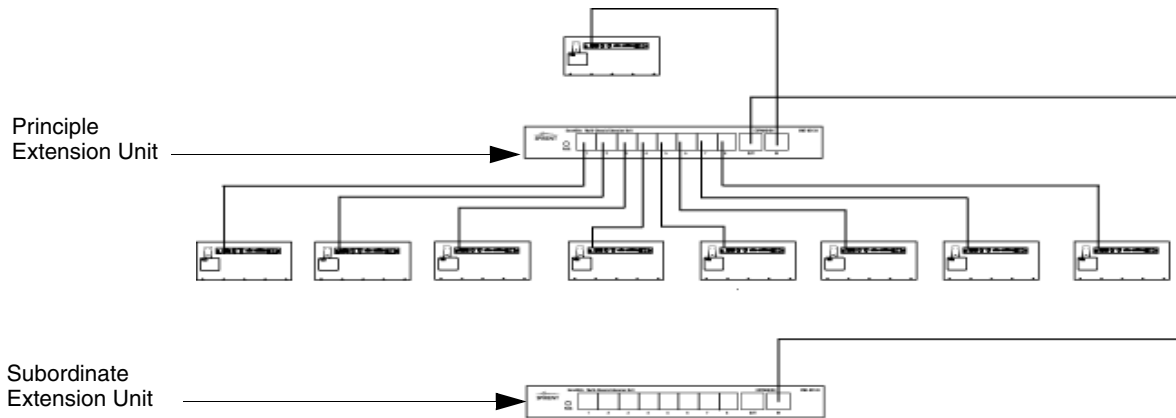

Figure A-11. Connecting an Extension Unit to Another Extension Unit
- 3 You can connect another extension unit to the *Principle Extension Unit* by connecting a cable from the OUT expansion port of the *Principle Extension Unit* to the IN port of the *Subordinate Extension Unit* as shown in Figure A-11. You may continue adding extension units and chassis until you reach 512 chassis.